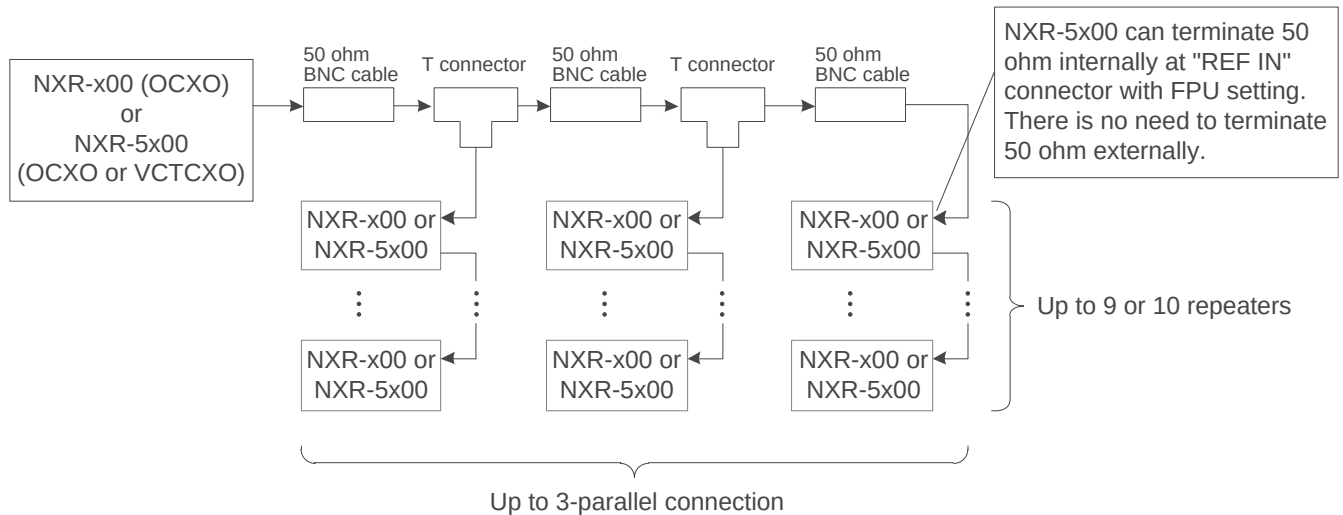

**Figure 1-4 Connection of Path for Providing External Reference Signals
- ◆ For NXR-5x00, if 50 Ohm Termination is enabled in KPG-D2/ D2N, a 50 ohm termination can be connected to an external reference signal input terminal (RF IN) in a repeater. In a site structured with NXR-x00, if a 50 ohm termination is already connected to an external terminator, the external terminator can be used. If the repeater in the upper right of Figure 1-4 is NXR-5x00, enable 50 Ohm Termination in KPG-D2/ D2N. Also, to connect a T connector to a 50 ohm external terminator, disable 50 Ohm Termination. In a site structured with NXR-x00, if the repeater in the upper right of Figure 1-4 is connected to a 50 ohm external terminator, the external terminator can be used.
If NXR-5x00 is added in Digital Narrow mode, the first part of a conversation may not be communicated in a weak signal field. Therefore, adding the OCXO to NXR-x00 and synchronizing the frequencies of repeaters, including the frequency of the NXR-5x00 to be added, is recommended. If installation of OCXO is difficult, frequency synchronization for all repeaters by using the VCTCXO of NXR-5x00 as shown in Figure 1-4 is recommended. If frequency synchronization for the existing NXR-x00 is difficult, always add NXR-5x00 to a site after frequency synchronization for all NXR-5x00 units.